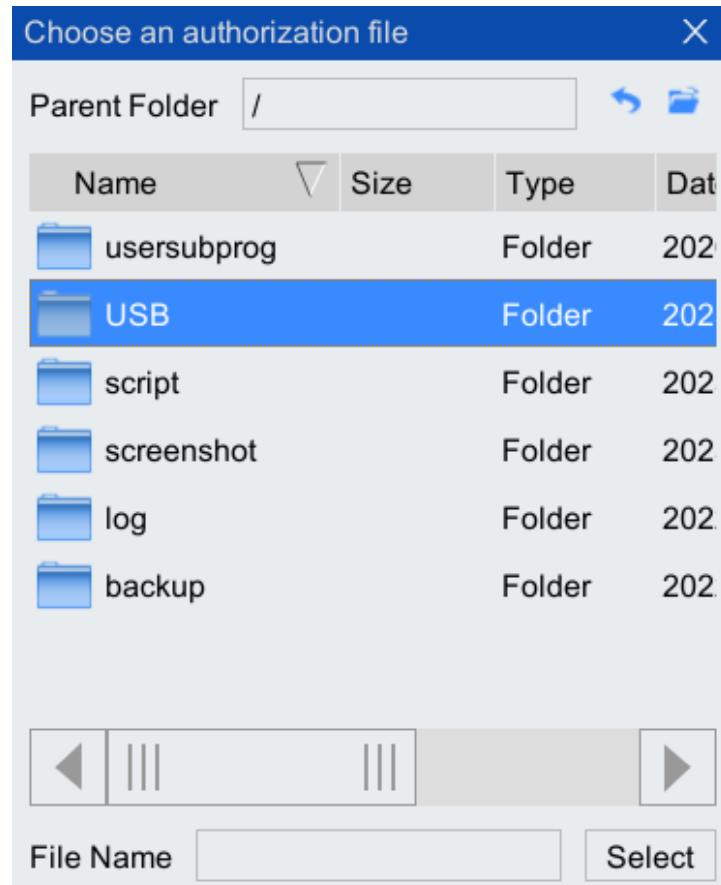

Figure 2-2 Select authorization file dialog box
Step4. The [Choose an authorization file] dialog box shown in Figure 2-2 pops up. In the pop-up directory, locate the "USB" folder and double-click to enter.